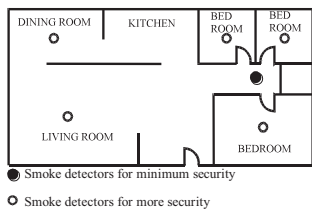

Figure 2:
- Install a smoke detector in the hallway outside every separate bedroom area, as shown in Figure 1. Two detectors are required in homes with two bedroom areas, as shown in Figure 2.